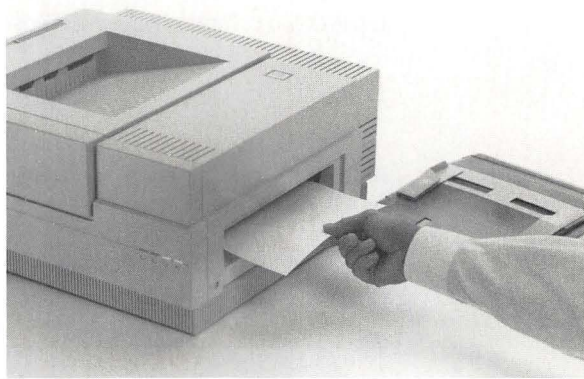

Figure 7-2 Releasing jammed paper from the cassette
2. If the jam is in the paper cassette area, pull the cassette out of the printer and release the paper. (See Figure 7-2.)